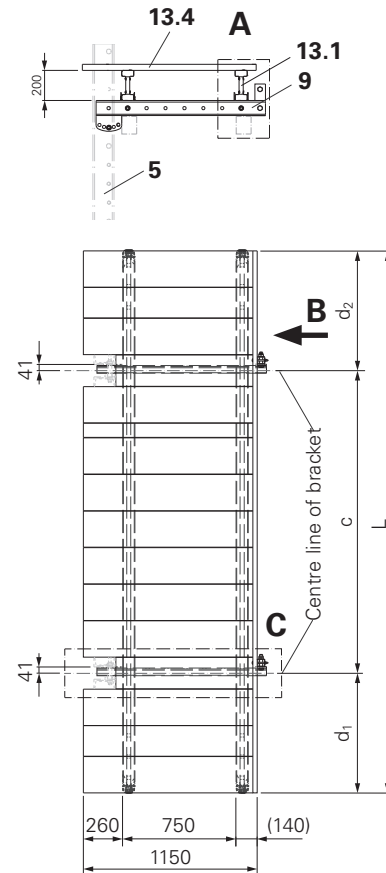

Fig. A1.22
1. Connect Girder (13.1) and Platform Beam (9) using the Girder Fixation M20 (13.2) and Torx 6 x 40 (2x per girder). (Fig. A1.22 + A1.22a)